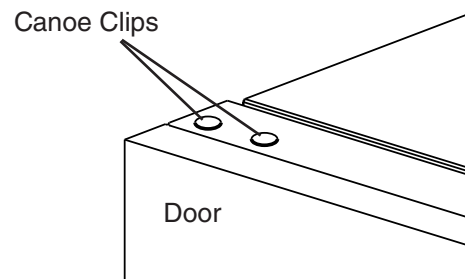

Fig. 29
10) Insert the 2 canoe clips included in the accessory bag into the holes on top of the door. See Fig. 29.